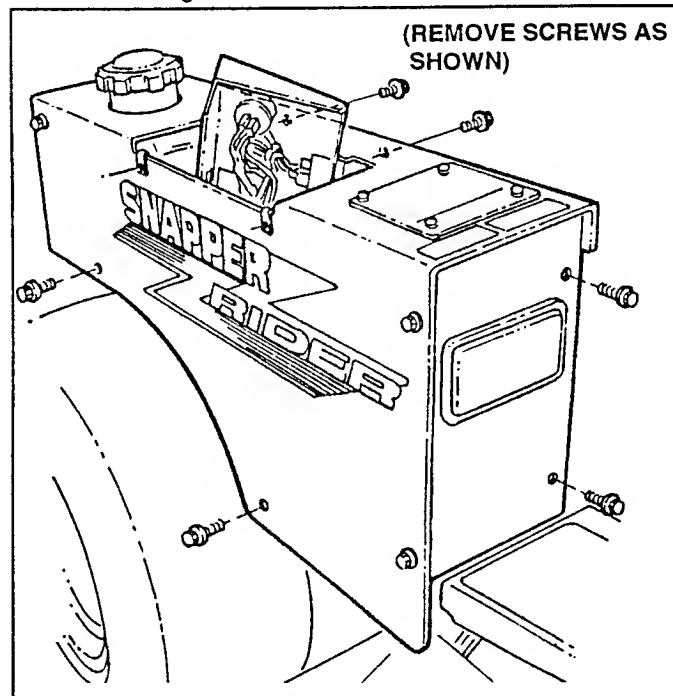

FIGURE 6.11
5. Remove Screws from Fender at locations shown in Figure 6.11.